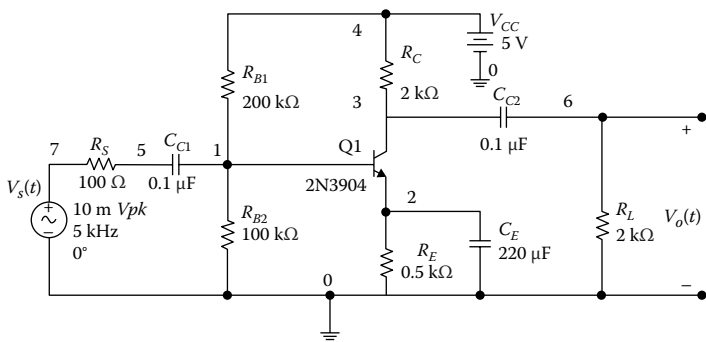

FIGURE 7.30
Use the Analog Discovery board to determine (1) the magnitude response of the circuit shown in Figure 7.30, (2) midband gain, (3) low cut-off frequency, (4) high cut-off frequency, and (5) bandwidth of the amplifier.
Use a breadboard to build the circuit shown in Figure 7.30. Connect the AWG1 (yellow wire) to node 7 of the circuit. Also, connect the scope channel 1 positive (orange wire) to node 7 and connect the scope channel 1 negative (orange-white wire) to node 0. In addition, connect the scope channel 2 positive (blue wire) to node 6, and the scope channel 2 negative (blue-white wire) to node 0. Furthermore, connect the ground
(black wire) to node 0 of the circuit. For the transistor 2N3904, connect the base of the transistor to node 1, the collector to node 3, and the emitter to node 2 of Figure 7.30. Moreover, connect +5 V dc power supply (red wire) to node 4.
Magnitude and phase response of the amplifier of Figure 7.30.